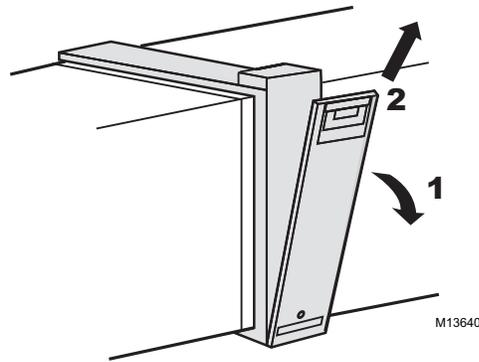

Fig. 1. Removing air cleaner door.
3. Grasp air cleaner door handle and pull firmly towards you to swing door open. See Fig. 1.